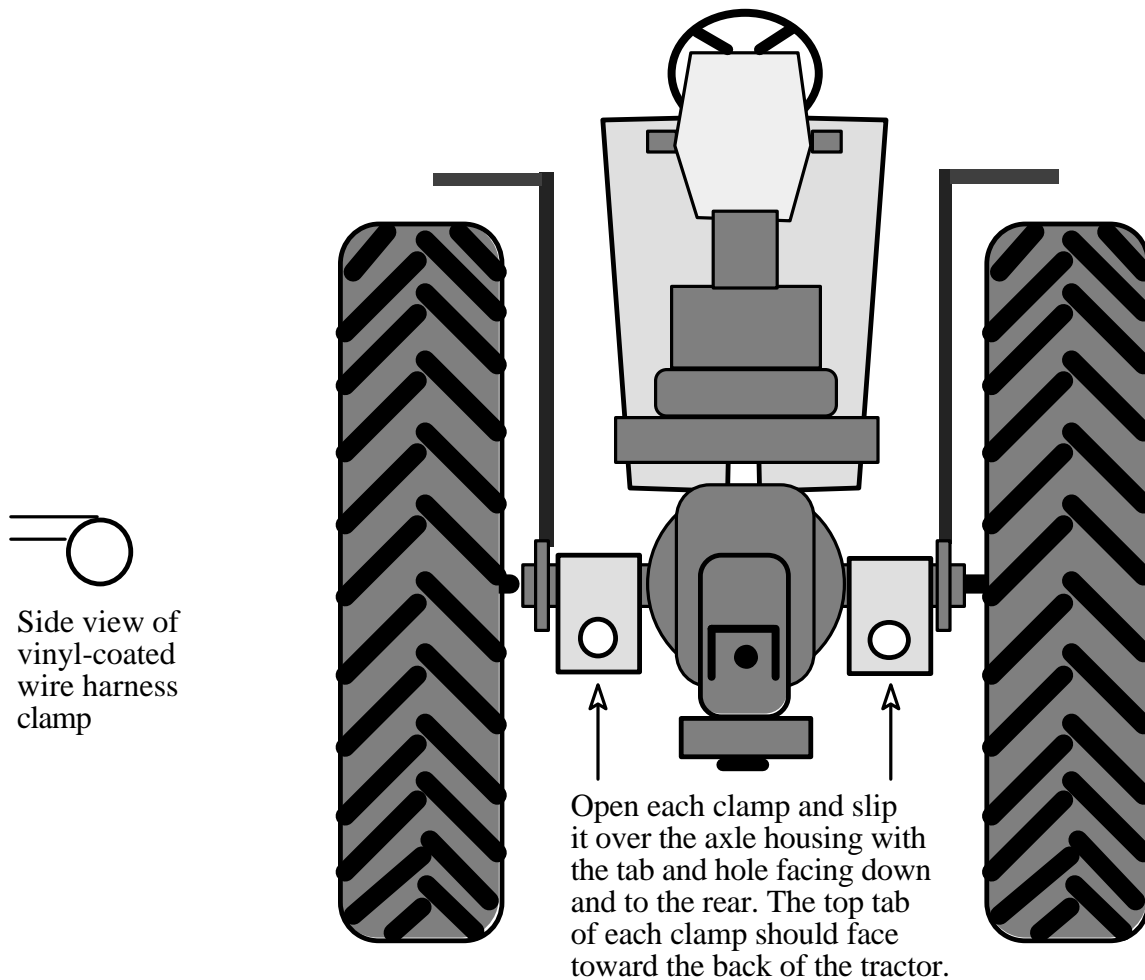

Figure 3: Positioning vinyl-coated wire harness clamps on the axle housing
2. If you decide to retrofit a model tractor with a model ROPS, attach two 1/2-inch diameter, vinyl-coated steel, wire-harness clamps to the model tractor's rear axle. Place each clamp between the fender and the tractor body as shown in Figure 3. These clamps can be purchased in automotive, hardware, or electrical supply stores.